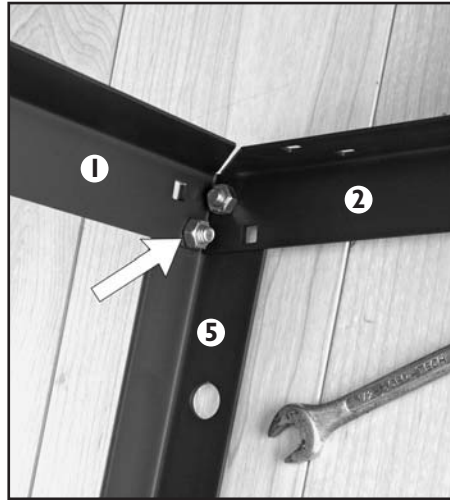

Fig. 6
6. Starting with the upper left corner, fasten the Upper Front Stretcher (with "Rockler" label) perpendicular to the left leg (5) using the hole closest to the inside corner of the leg. **Fig. 6.**